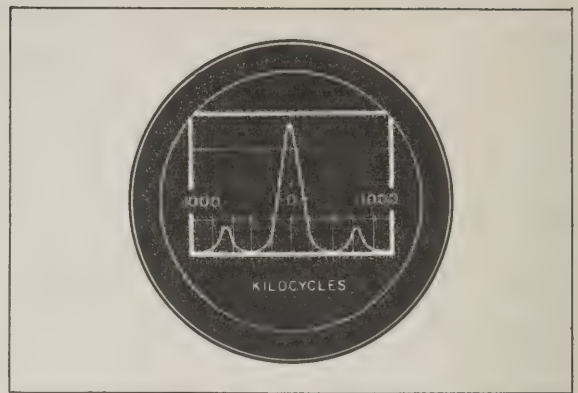

Figure III-3. Amplitude Modulated Carrier (at Reduced Sweep Width)
b. An amplitude modulated carrier (Fig. III-3) appears as a deflection of variable height. Voice or music modulation causes the carrier to vary irregularly. A constant tone modulation of low frequency will produce a series of convolutions varying in height, their number being determined by the modulation frequency. As the modulation frequency increases the convolutions move toward the two sides of the deflection, and